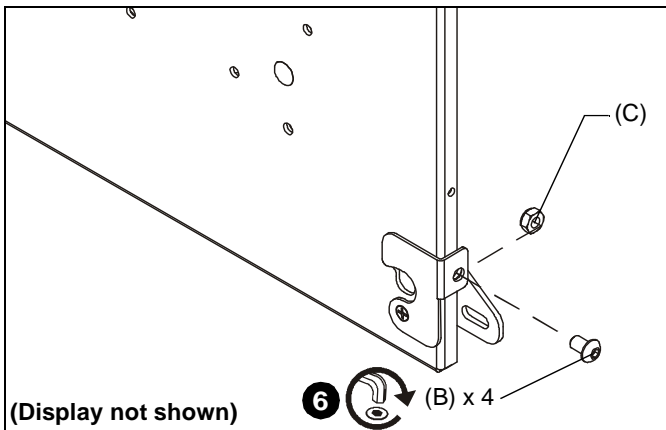

Figure 4
- Lock the display to the mount using one 5/16-18 x 1/2" button head cap screw (B) and one 5/16" lock nut (C) through the latching flag at each corner of mount. (See Figure 4)